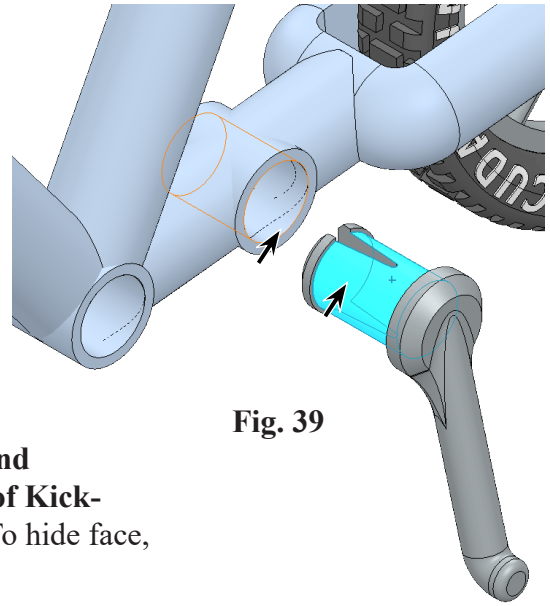

Fig. 39
Step 2. Click a **cylindrical face Kickstand** and a **cylindrical face of Kickstand hole in Frame**, **Fig. 39**.